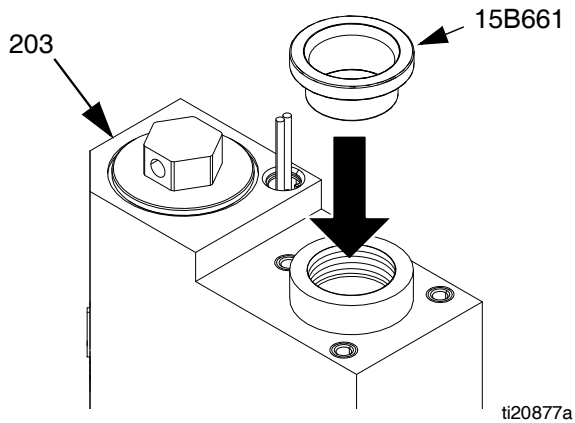

FIG. 30
1. To protect the seals from the sharp threads, place seal installation tool 15B661 into the throat bore. See FIG. 30.
7. Install retaining nut (235). See FIG. 30.